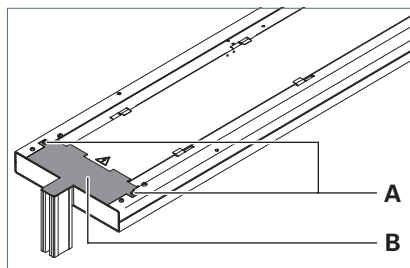

Fig. 1: Removing the cover
- Unscrew the screw **A** from the cover **B**, see Fig. 1.